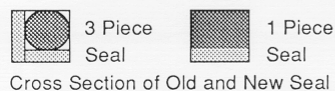

Figure 7
* One Piece Teflon Seal use on -002 Unit and is Replacement Seal for 3 Piece Seal on Older Units (Old 3 Piece Shown in Fig. 7 Disassembly).